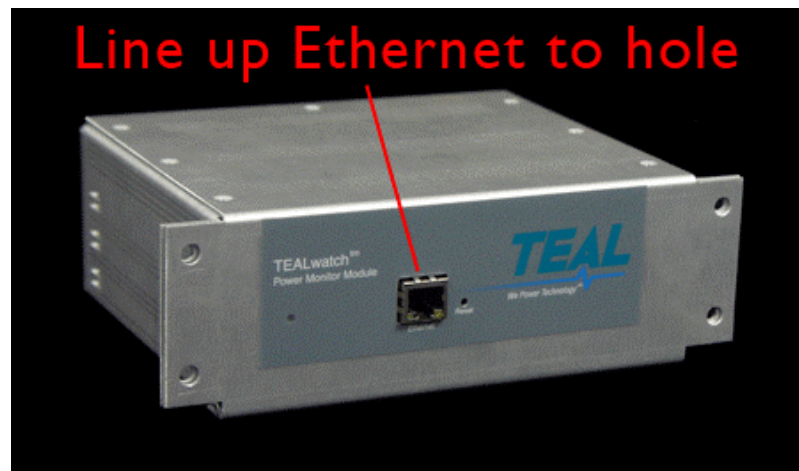

Figure 6.3.7 – Line up clamshell enclosure top to Ethernet connector on main PCB.
- Step 13. Slide the top part of the clamshell enclosure back into place, taking care to line up the Ethernet connector on the PCB with the Ethernet hole in the enclosure, as shown in Figure 6.3.7.